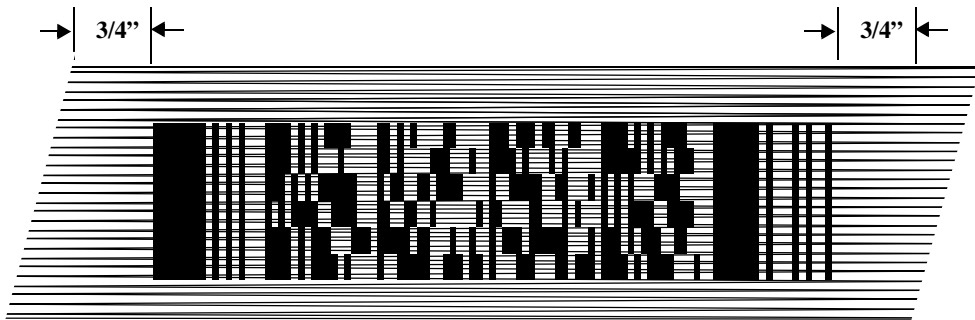

Figure 4-10. Orienting Scanning Pattern On PDF417 Bar Code
- The PDF417 bar code symbol has multiple rows, but the raster pattern also has multiple scanning rows. For this reason, do three basic things as you scan (refer to Figure 4-10):